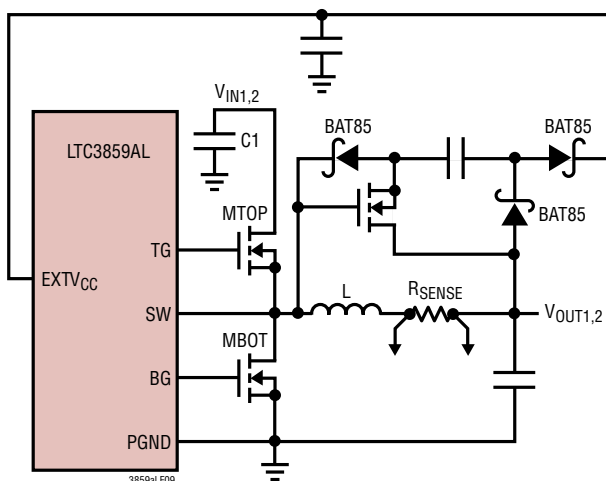

Figure 9. Capacitive Charge Pump for $EXTV_{CC}$
4. $EXTV_{CC}$ connected to an output-derived boost network off one of the buck regulators. For 3.3V and other low voltage buck regulators, efficiency gains can still be realized by connecting $EXTV_{CC}$ to an output-derived voltage that has been boosted to greater than 4.7V. This can be done with the capacitive charge pump shown in Figure 9. Ensure that $EXTV_{CC} \leq V_{BIAS}$.